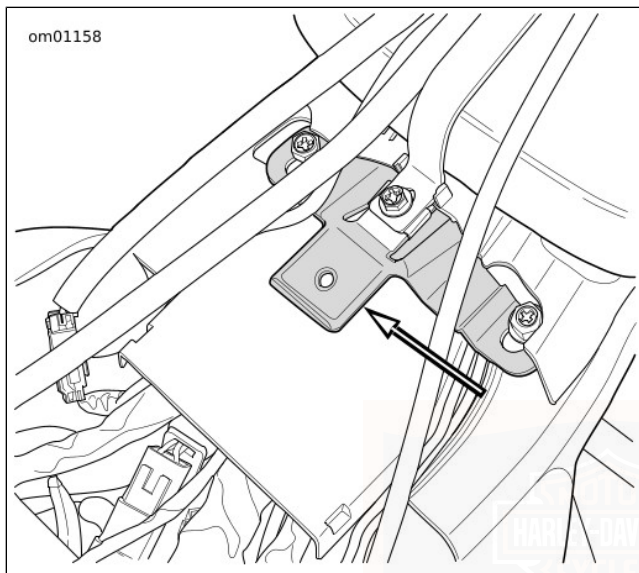

Figure 85. Seat Tongue
4. See Figure 85. While pushing seat forward, raise rear of seat until bracket clears top of Tour-Pak. Push seat rearward slightly to free seat from frame.